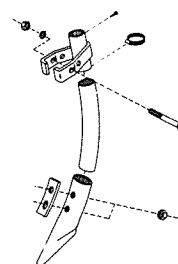

Figure 3
- 3) The chrome point knife opener (Figure 3), is used for applying fertilizer when a minimum of soil disturbance is desired. The boot used with the knife opener can be used for narrow band seeding operations resulting in a row width of approximately 3/4". This configuration can also be used to seed winter wheat.